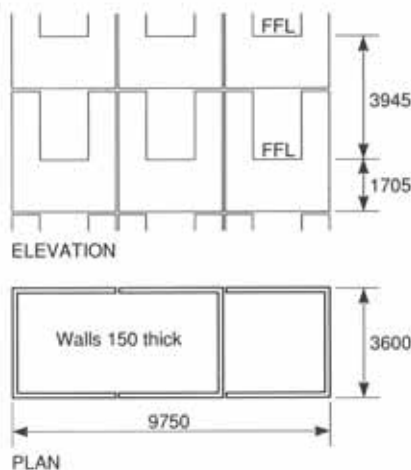

FIGURE 2 WALL UNITS FOR THE SOUTHERN LIFTSHAFT IN THE ST GEORGE HOSPITAL PROJECT, KOGARAH, NSW
- whether or not fire separation walls are required between lifts (**Figures 2 and 3**, plan view);